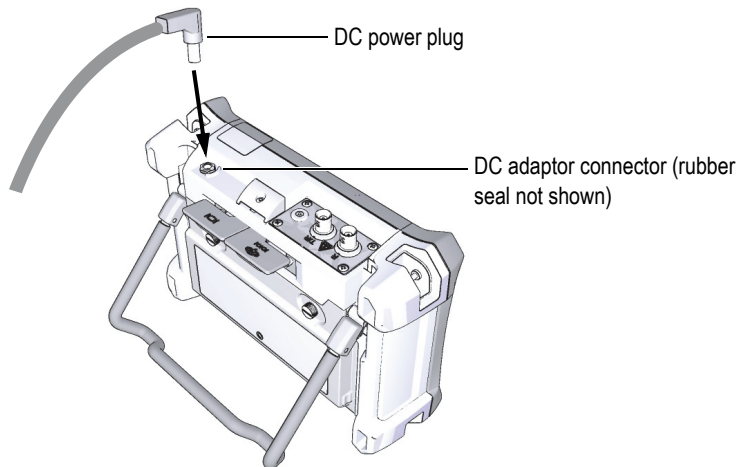

Figure 2-3 Connecting the DC power plug
3. Connect the DC power plug to the DC adaptor connector (see Figure 2-3 on page 58).